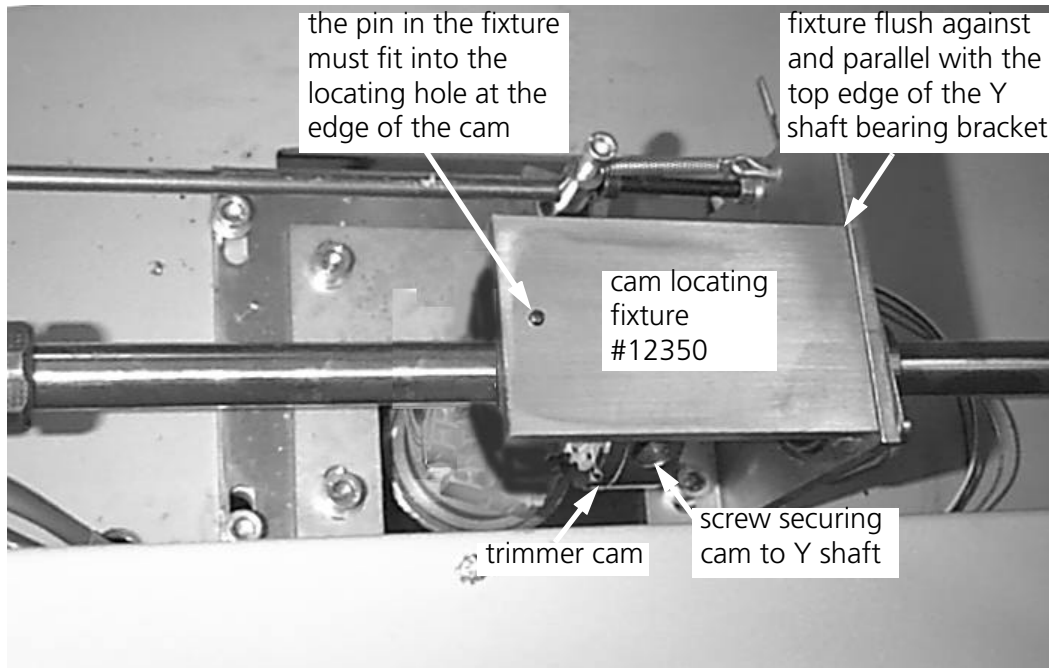

Figure 4-24
16. Place the cam locating fixture #12350 onto the trimmer cam assembly (refer to Figure 4-24). With the fixture flush against the Y shaft bearing bracket, the pin in the fixture must fit into the locating hole at the edge of the cam. The fixture surface must also be parallel with the top edge of the Y shaft bearing bracket.
19. Loosen the screw securing the cam to the Y shaft shown in Figure 4-24.
20. With the cam locating fixture pin still installed in the hole in the cam, position the cam until the fixture body is flush and parallel with the Y shaft bearing bracket as indicated in Figure 4-24.
27. Again place the test fixture #12350 onto the trimmer cam assembly (refer to Figure 4-24) to check for proper trimmer cam positioning.
31. Engage the cam follower into the cam groove (refer to Figure 4-24) and hold the follower in place with a small block of wood (or other similar jamming device).